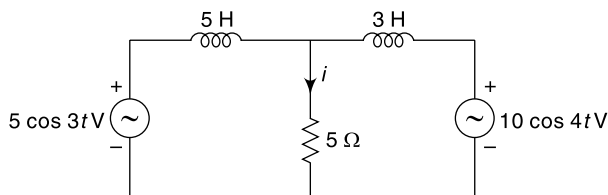

Fig. 14.81
14.93 ■■■■■ Determine the current (i) through the 5Ω resistor using superposition theorem in Fig. 14.81.